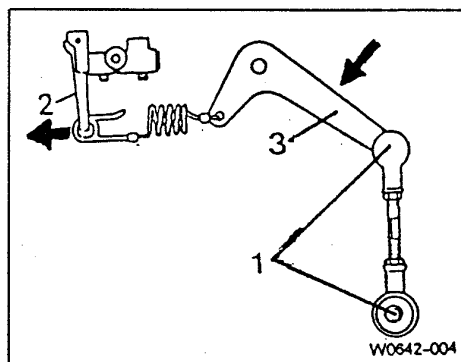

Figure 1
2. Disconnect connecting rod of the load conscious limiting valve (L.C.L.V.) at both ball joints (figure 1 pos. 1) and remove.Move both linkages (figure 1 pos. 2 and 3) to the arrows direction and fix levers.The L.C.L.V.valve is now in "0" position.
5. Reinstall the connecting rod of the L.C.L.V.valve (figure 1 pos 1).Check the adjustment of the valve ,refer to workshop manual page 42 - 1145/1 to /5, if necessary re-adjust, refer to page 42 - 1155/6 to /7.